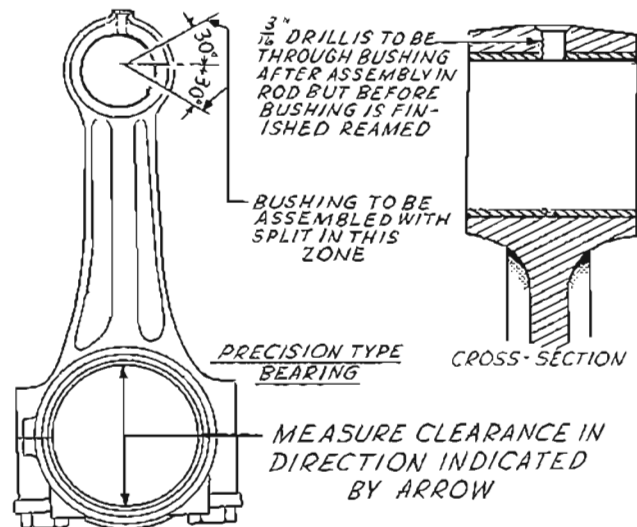

Figure A-34. Connecting Rod
Clean the connecting rods and check each for defects. Check the upper connecting rod bushings for proper clearance with the piston pin. Clearance should be .0002 to .0007". If the bushings are excessively worn, press them out and install new ones, pressing the new bushings in until they are centered in the connecting rod (fig. A-34). After installation, drill the bushings with a 3/16" drill through the counterbored hole in the connecting rod top. Finally, ream the bushings to the proper size. Be sure the connecting rod oil spray hole is open.
(1) Assemble the connecting rods and pistons with pins and retaining rings. Facing the side of connecting rod with oil spray hole, install piston with arrow pointed to the right (fig. A-34 & A-35).